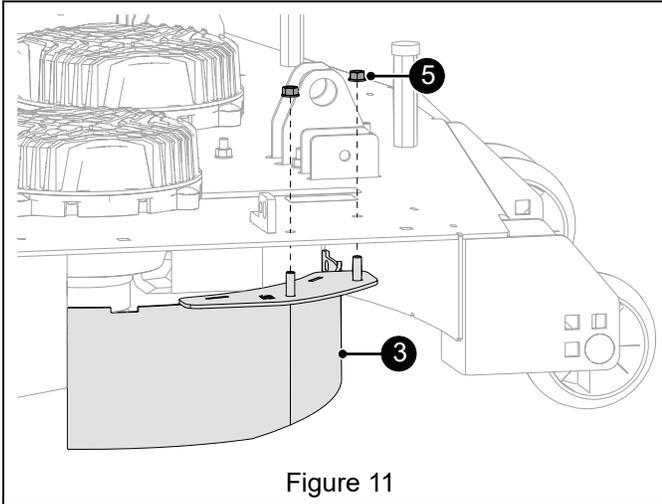

Figure 11
1. Secure discharge baffle (item 3) to mower deck with two locking center flange nuts (item 5). Torque nuts to 9.1 N•m – 10.2 N•m (80 lb-in – 90 lb-in). See Figure 11.